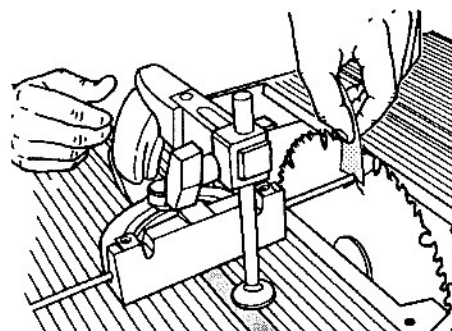

Fig. B-30
29. Slide the miter gauge toward the "X", as shown in Fig. B-30. Try to insert the paper at the "X". If the fit is **different** between the blade and rod, do the following: